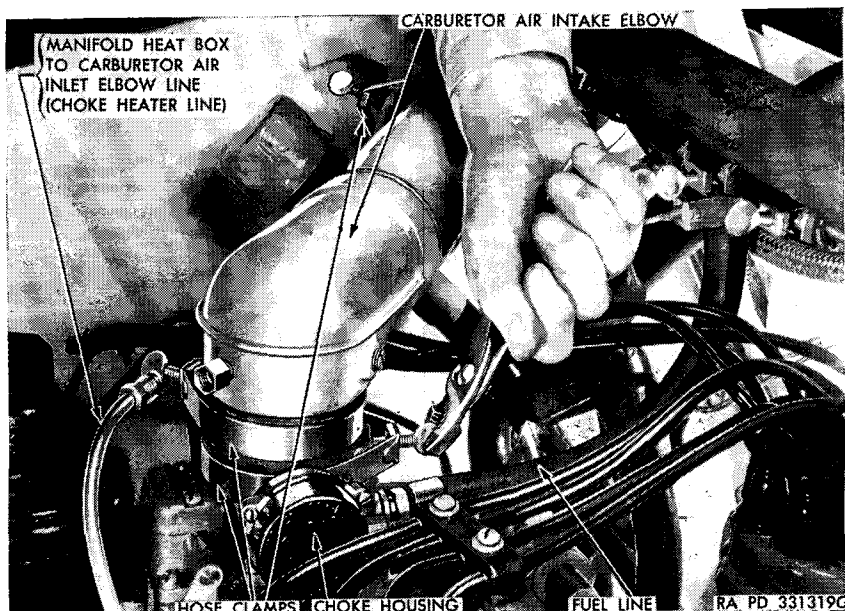

Figure 47. Removing carburetor intake elbow.
- (5) *Remove carburetor intermediate air intake elbow (fig. 47).* Loosen hose clamps at carburetor. Disconnect (choke heater) line manifold to carburetor elbow and distributor ventilating line from air intake elbow. Remove ground strap. Remove two screws securing elbow to engine compartment side wall and lift out elbow and air intake pipe as a unit.